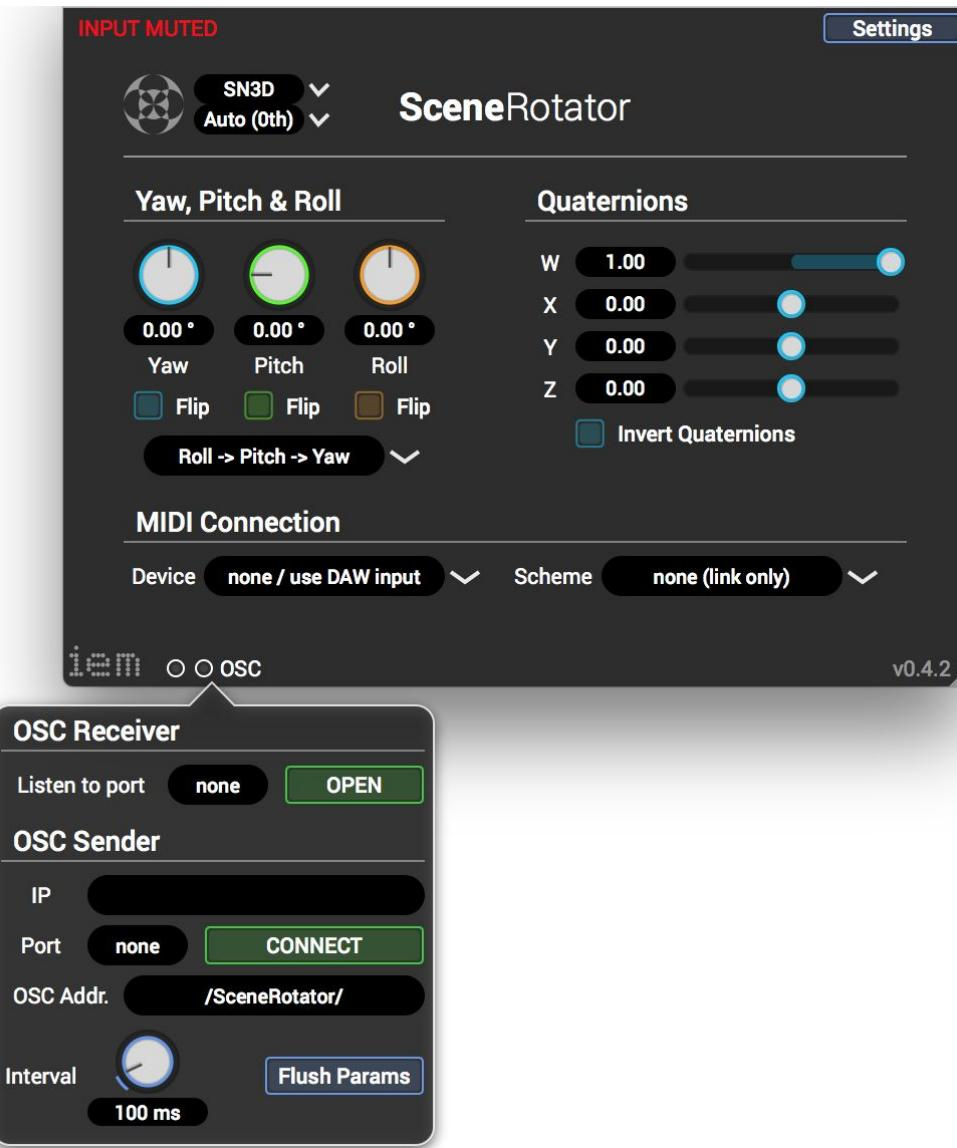

Figure 25: iem-Plug-In Suite example activation of the OSC-Data
**Step 4.1:** Click on OSC in the bottom left corner (Figure 25)